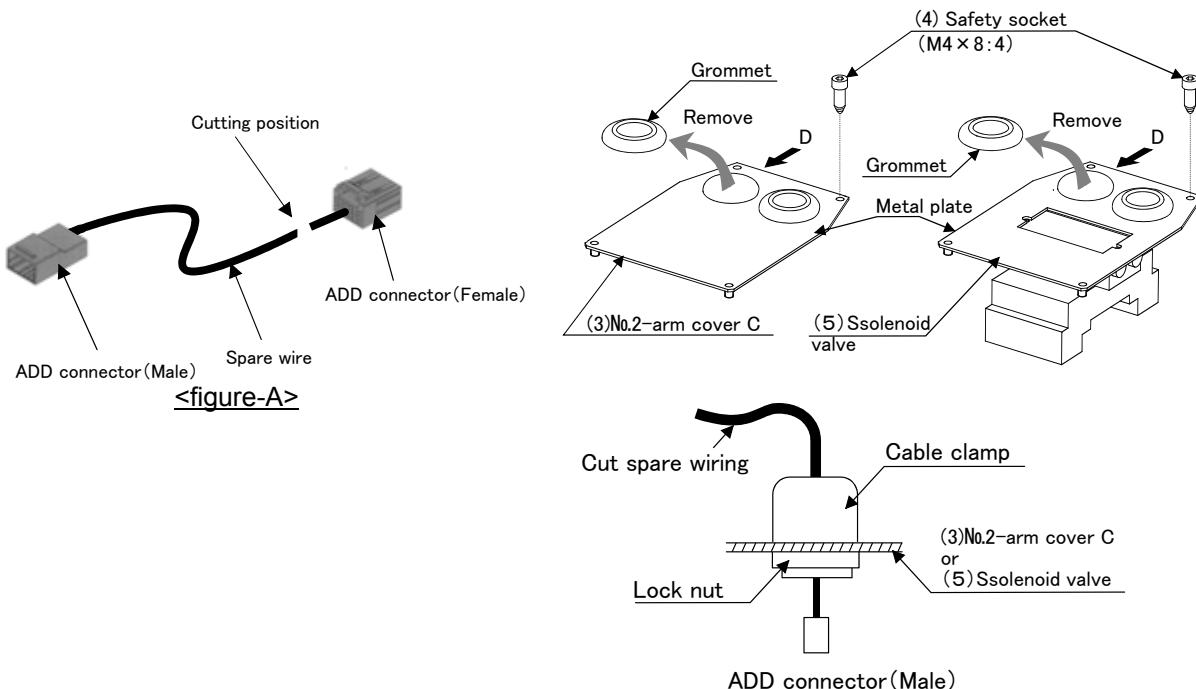

Fig.2-9 : Installation and connection of spare wiring
- 4) The connector is attached to spare wiring to both ends. Cut spare wiring near the connector (from the connector end to the about 10~20mm Refer to <figure-A> in Fig. 2-9), and let spare wiring pass to the cable clamp (customer preparation).
- 5) Remove one either among the grommets of No.2 arm cover C(3) or solenoid valve (5). After removing the grommet, the seal material which remained in the hole area of the sheet metal removes.